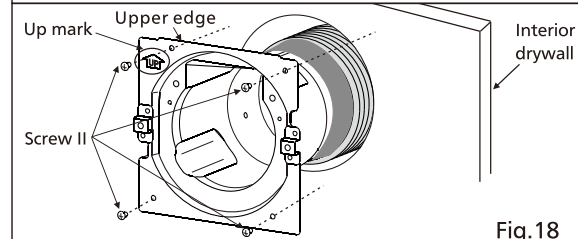

Fig.18
3. Insert the duct into wall and secure it with 4 screw II (ST4.2X20) in accessory. (Fig.18)